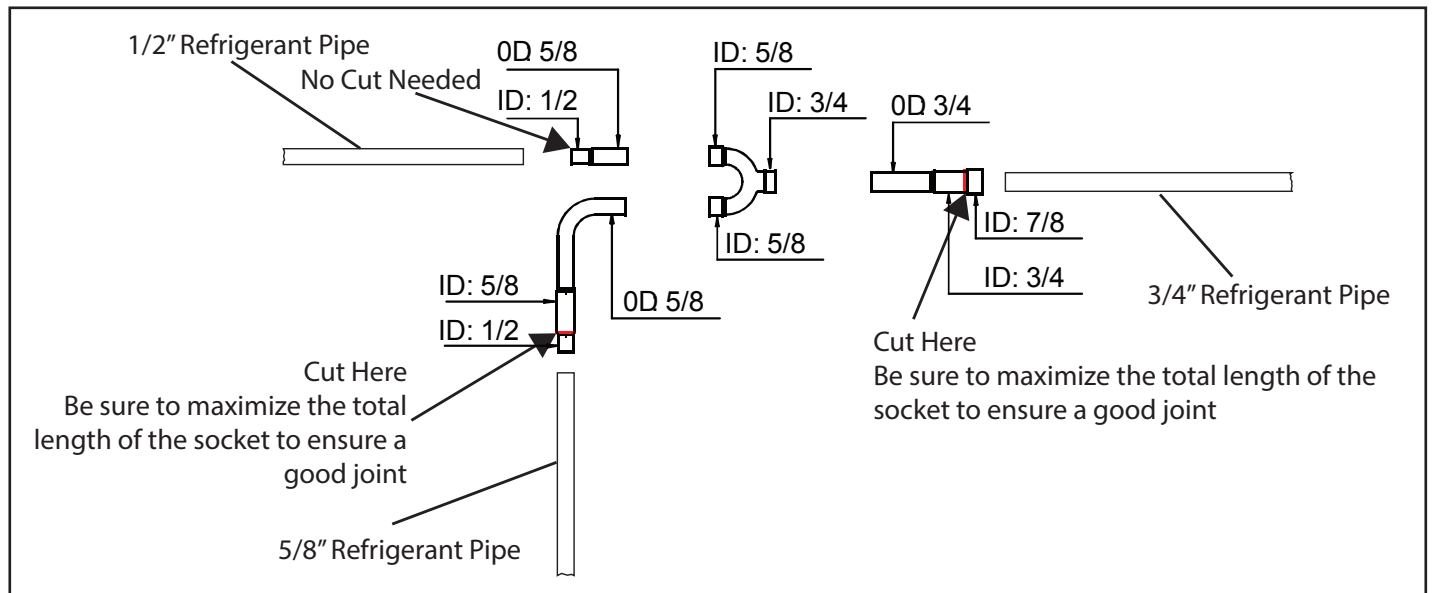

Figure 4. Cutting Branch Pipe Kits to Size Example
- The piping can be cut to suit the installation needs. See figure 4.